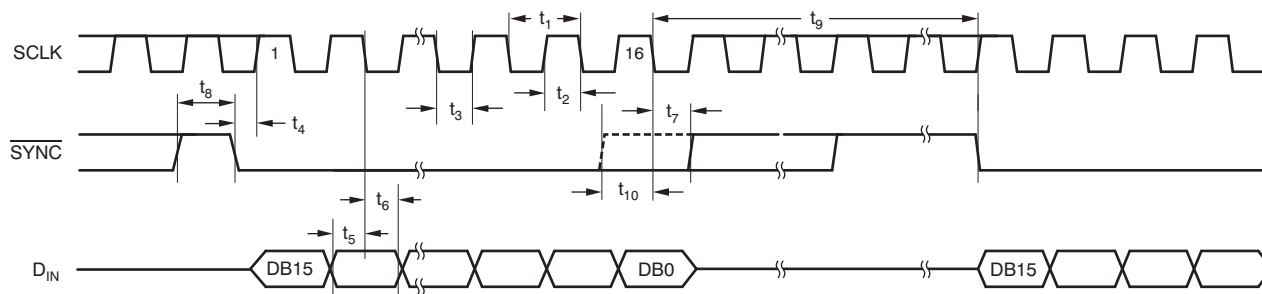

Figure 1. Serial Write Operation: 14-Bit (DAC8311)
(1) All input signals are specified with $t_R = t_F = 3\text{ ns}$ (10% to 90% of AV_{DD}) and timed from a voltage level of $(V_{\text{IL}} + V_{\text{IH}})/2$.
(2) See Figure 1 timing diagram.